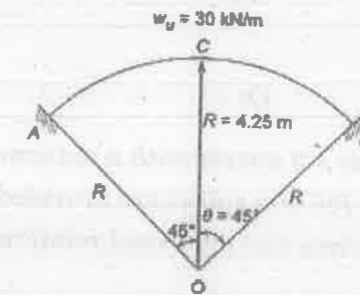

Figure 1
16. A beam curved in plan in the form of segment of a circle of radius  $4.25\text{ m}$  and central angle of  $90^\circ$  fixed at the ends as shown in figure 1. supports a uniformly distributed service load  $20\text{ kN/m}$ . For preliminary analysis consider rectangular section of size  $300 \times 600\text{ mm}$  overall for the beam. Design the curved beam using concrete of grade M25 and HYSD steel bars of grade Fe 415.